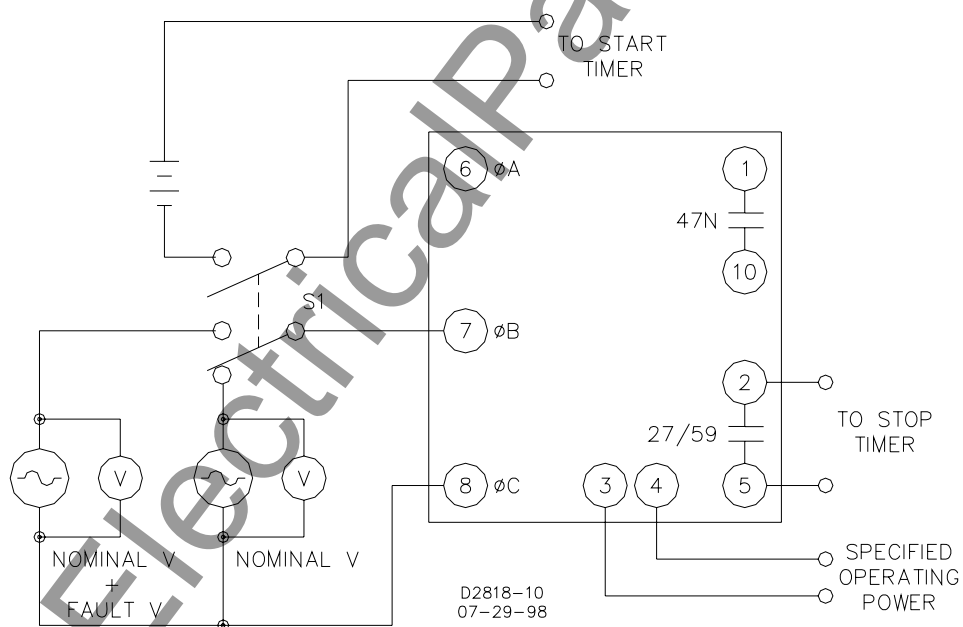

Figure 5-2. Test Circuit Diagram (27, 59)
1. Connect the test setup as indicated in Figure 5-2.